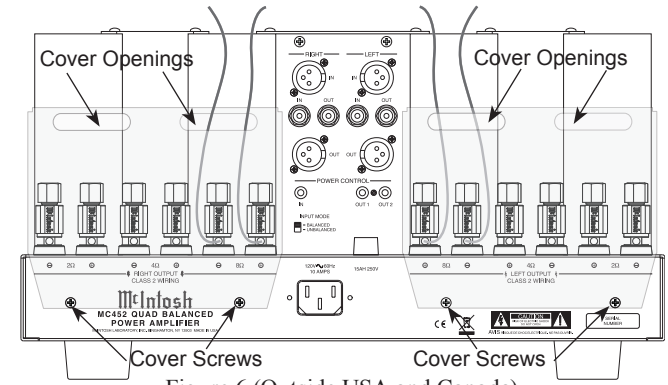

Figure 6 (Outside USA and Canada)
13. Locate the Terminal Connections Covers from the inside of the MC452 shipping carton. Insert the just prepared Loudspeaker hookup cables thru the cover openings, one cover for each channel. Refer to figure 6.
Note: The illustration in figure 6 is connections for 8Ω (ohms) Loudspeakers.
15. Attach the Terminal Connections Covers to the MC452 Rear Panel with the previously removed Screws. Refer to figure 6.